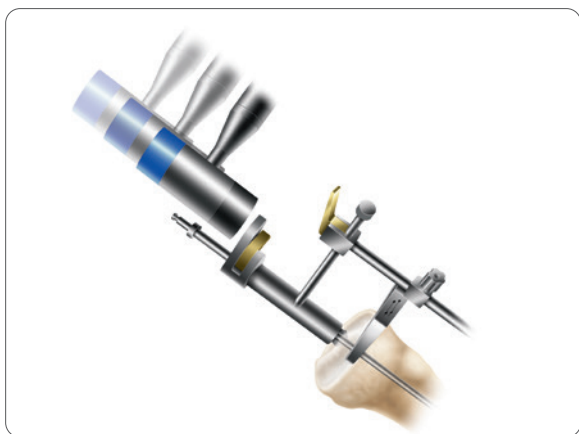

Figure 96
4. Impact the proximal end of the cannulated alignment sleeve to drive the distal spikes into the proximal tibia to lock rotational alignment (**Figure 96**).